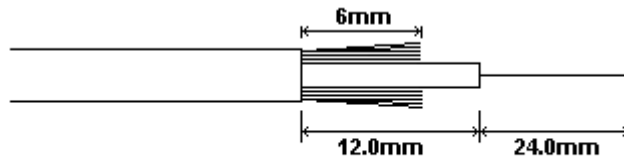

Figure 3
2. Using the template in Figure 3, mark cable jacket and strip cable to the correct lengths, using the appropriate tooling.